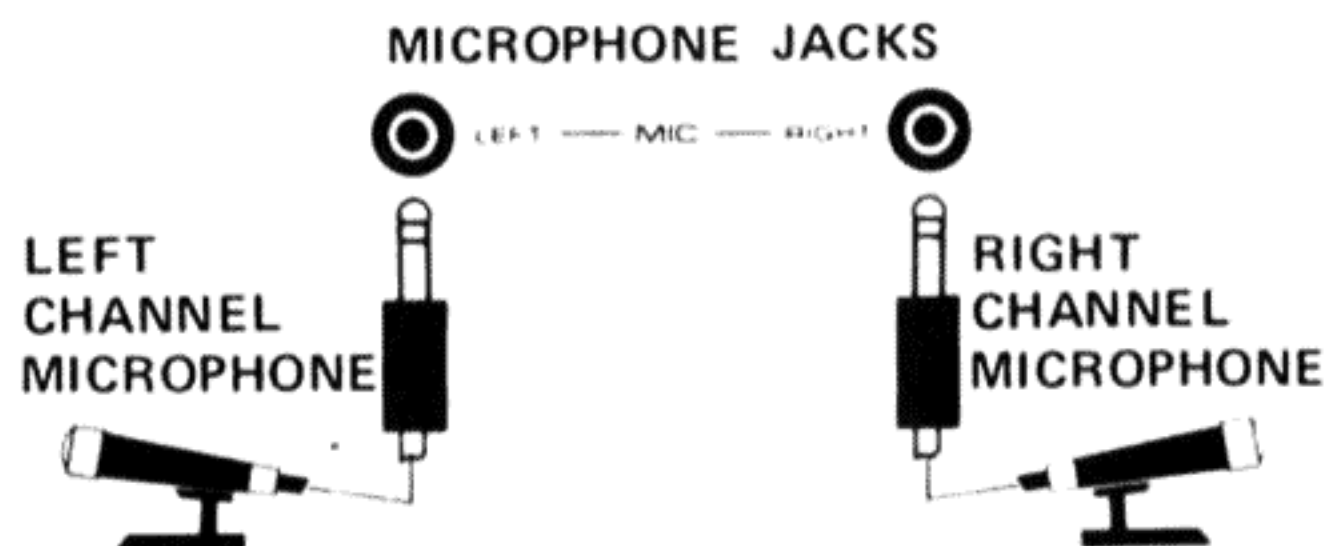

Fig. 40
1. For stereophonic recordings, use two identical microphones and connect them to the MIC input jacks (Fig. 40).